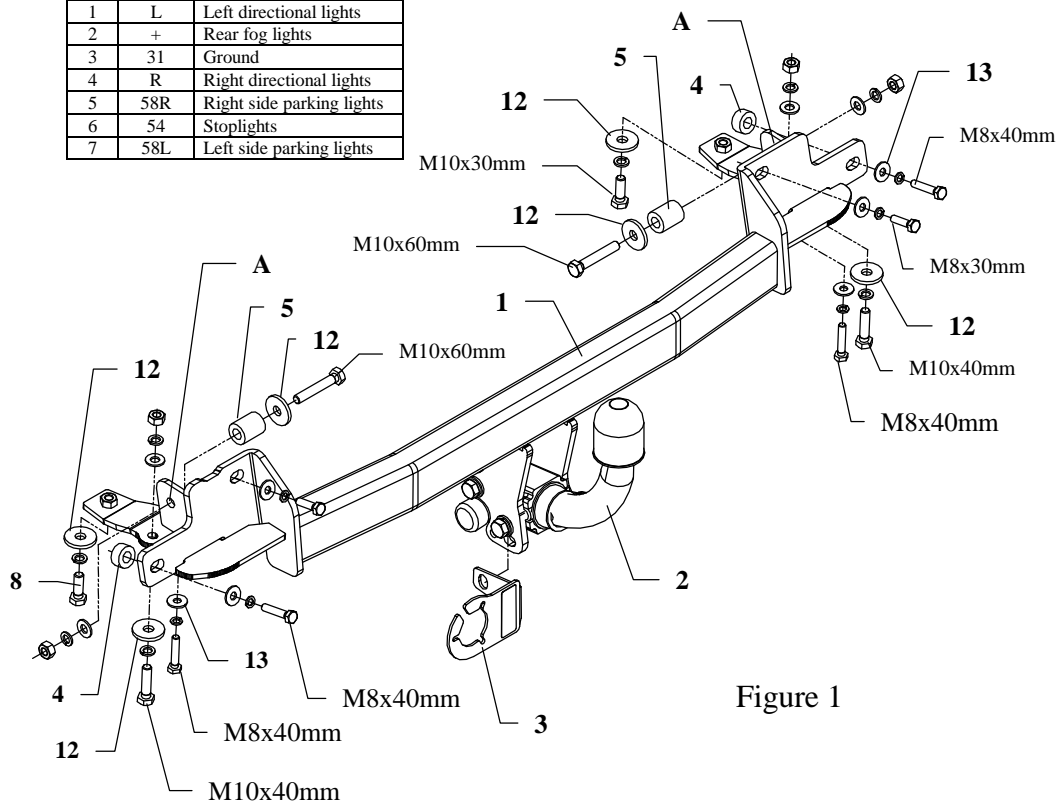

Figure 1
3. Through original holes in chassis members put bolts M10x60mm (pos. 7) together with distance sleeves $\varnothing 25 \times 6$, L=31mm (pos.5) as shown in the figure 1.
4. Carefully put main bar of the towbar (pos. 1) to chassis members in this way so distance sleeves stay on right place and put bolt M10x60mm through holes pos. A and fix loosely.
5. In rest places of fastening fix towbar using bolts from equipment according to figure 1.